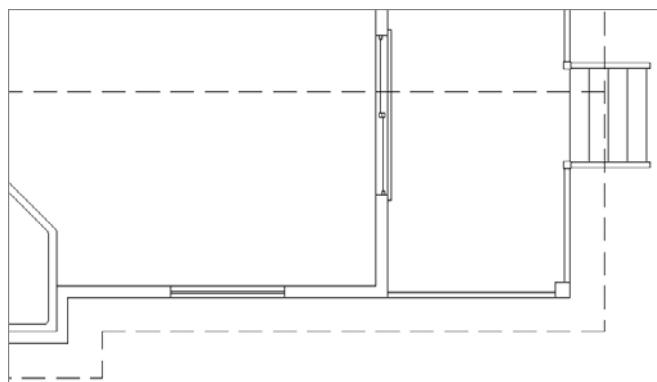

FIGURE 8.7 Preparing to create title text by setting your view
3. Use the Zoom and Pan tools to make your view similar to the one shown in Figure 8.7.